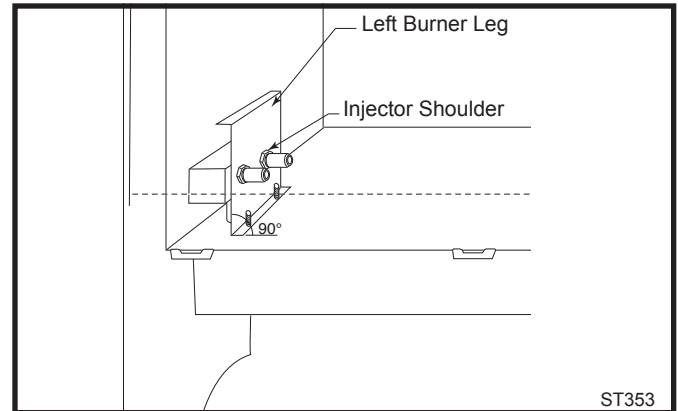

Fig. 40 Be sure to maintain 90° angle at left burner leg.
9. Refasten the two nuts and assemble the burner into the unit by sliding the burner in at an angle with the left side lower than the right side. Slide the left side onto the injectors. Lower the right hand side down into place. Make sure the burner is as far left as possible and the injector shoulders are inside the burner. **NOTE:** It is very critical to keep the left burner leg, which holds the injectors, at a 90° angle to the base. (Fig. 40) This keeps the orifices aligned with tubes on the inside of the burner. Failure to do so could affect the flame appearance and performance of the unit.